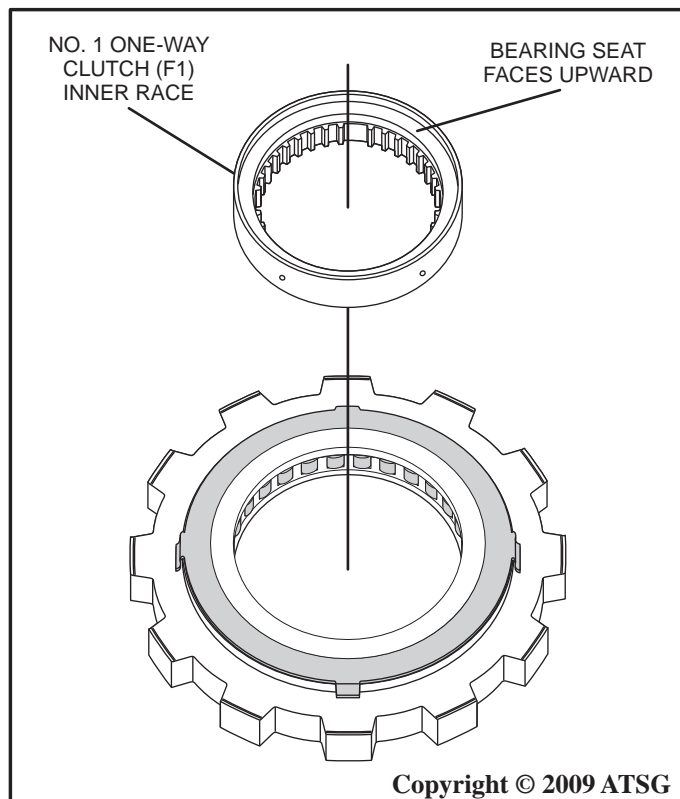

Figure 120
9. Install the No. 1 one-way clutch (F1) inner race by twisting in a "counter clockwise" direction with the bearing seat facing upward as shown in Figure 120.